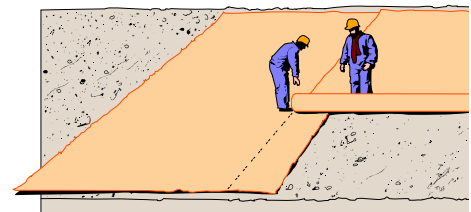

Figure 6 Geotextile Placement
- Ensure that minimum overlap between rolls is maintained. See Figure 6.